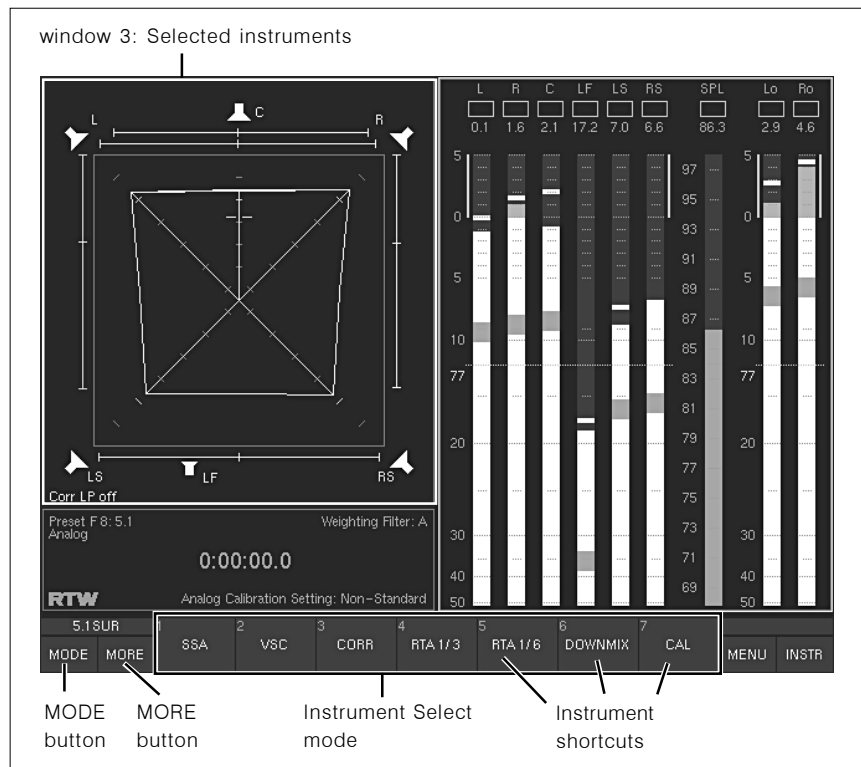

Fig. 3-6: The Surround Sound Analyzer is displayed in window 3. The first instrument selection level (displayed after selecting MODE) is shown in the Toolbar
1. Press the **Mode** key/button on the control panel of the unit, the front panel of the Remote Display 30010 or click the **MODE** button in the Toolbar (window 1 of the screen, see Fig. 2-1). The buttons in the Toolbar numbered **1** to **7** switch into the **Instrument Select** mode and show the first seven available instrument types (display modes, see Fig. 3-6).